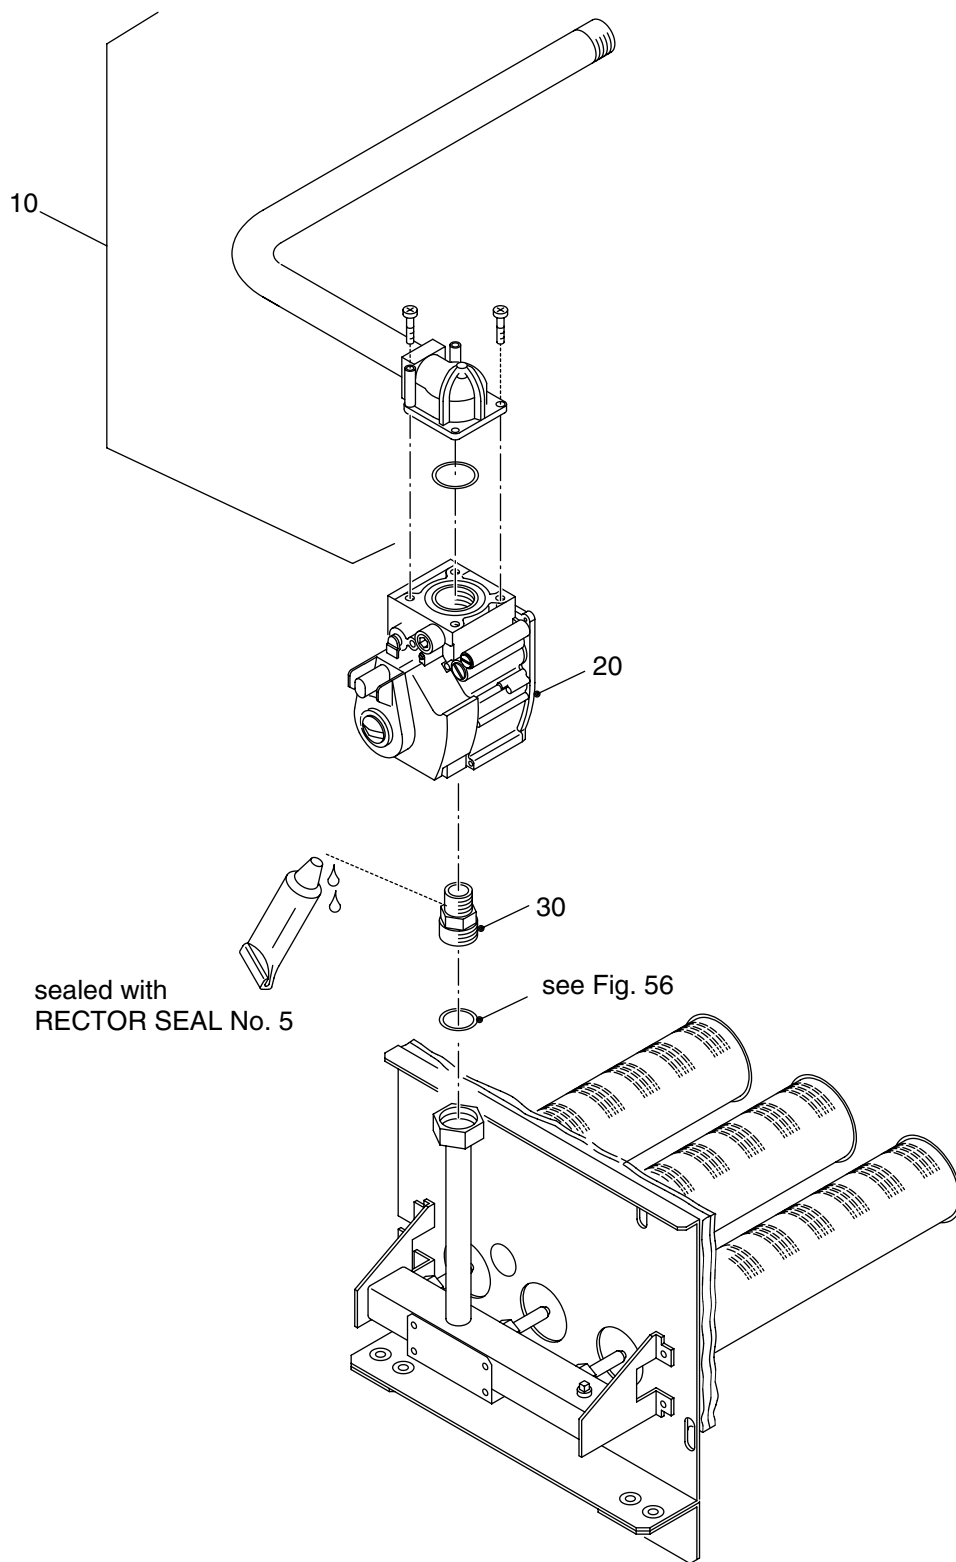

Fig. 56 Gas union for G124X SP
**Gas union for G124X SP (→ Fig. 56)**